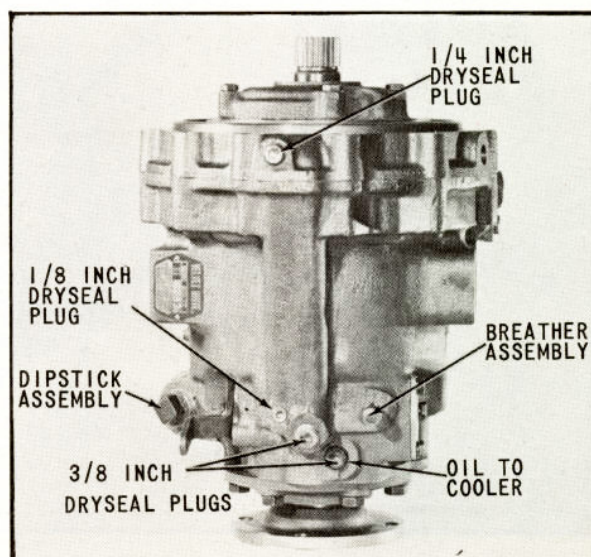

Fig. 77 Installation of Miscellaneous Pipe Plugs
84. Install 3/8-18, 1/4-18 and 1/8-27 dryseal plugs, (Fig. 77) and torque to values indicated on page 54.